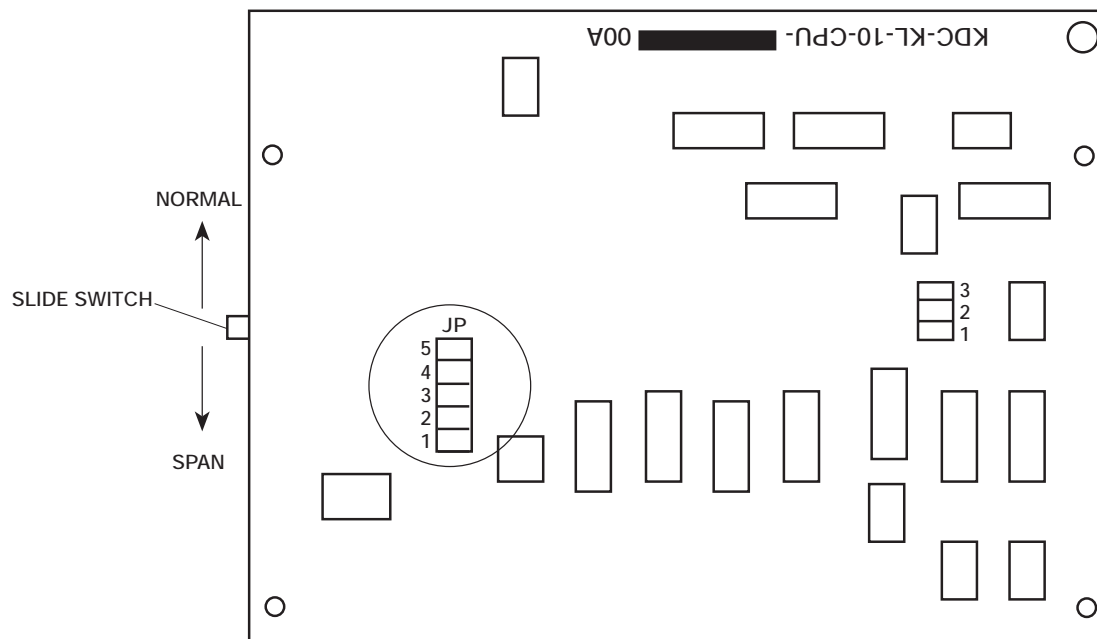

FIGURE 1
2. Remove screws (4) from metal back plate covering CPU and remove back plate.
3. Locate JP on board, (see Figure 1). Put jumper on JP-2.